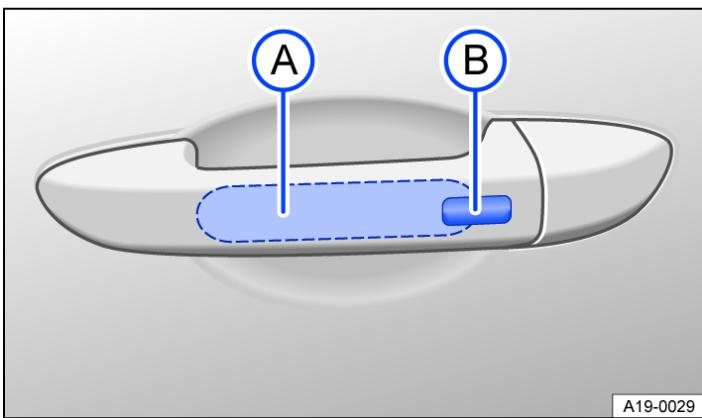

Fig. 2 In the door handle: sensors.
- Touch the sensor surface → *Fig. 2 A* on the inside of the driver or front passenger door handle.
- Touch sensor → *Fig. 2 B* on the outside of the driver or front passenger door handle.
- Then touch the sensor on the outside of the door handle → *Fig. 2*  once within five seconds. Do not put your hand around the door handle when doing this.
- Place a finger on the sensor of the driver's or front passenger door handle → *Fig. 2*  for a few seconds.